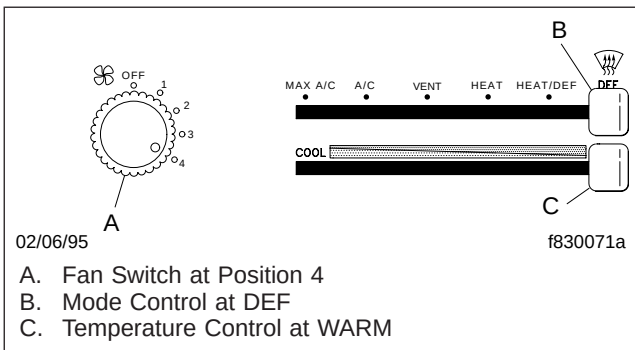

Fig. 4.6, Settings for Defog/Defrost
1. Set the mode control (upper lever) to HEAT, the fan switch to OFF and, if so equipped, the bunk fan switch to OFF before starting the engine. See Fig. 4.6.